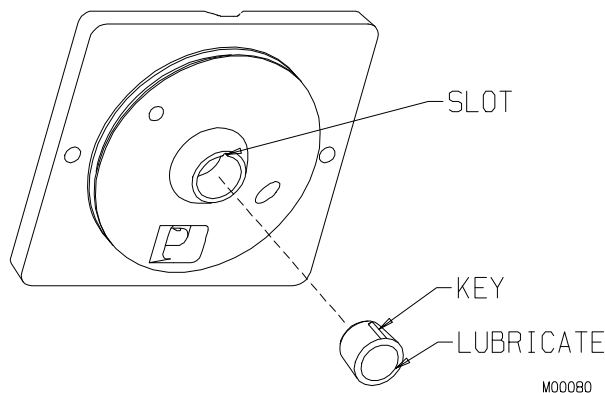

Figure 7-5 Head Bushing
7. (Install the o-rings (17, 18) on the plunger (14). Lubricate the o-rings.
8. Install the o-rings (12) onto the pivot post (13). Lubricate o-rings lightly. Insert pivot post into the head so the holes are toward the back.
9. Install the mixer shaft bushing (15) into the plunger (14).
10. Install the plunger (14) into the head (5) just past the top o-ring with the slot facing back. Turn slot slightly to the left and hook handle (11) into the slot. With handle in the slot turn the slot to the back.
11. Place the keeper (4) through the handle (11), pivot post (13) and head (5) until it locks in place.
12. Lubricate the inside surface of the beater bearing bushing (3) and place in the head (5) making sure to align bushing key into head slot, as shown in figure 7-5.